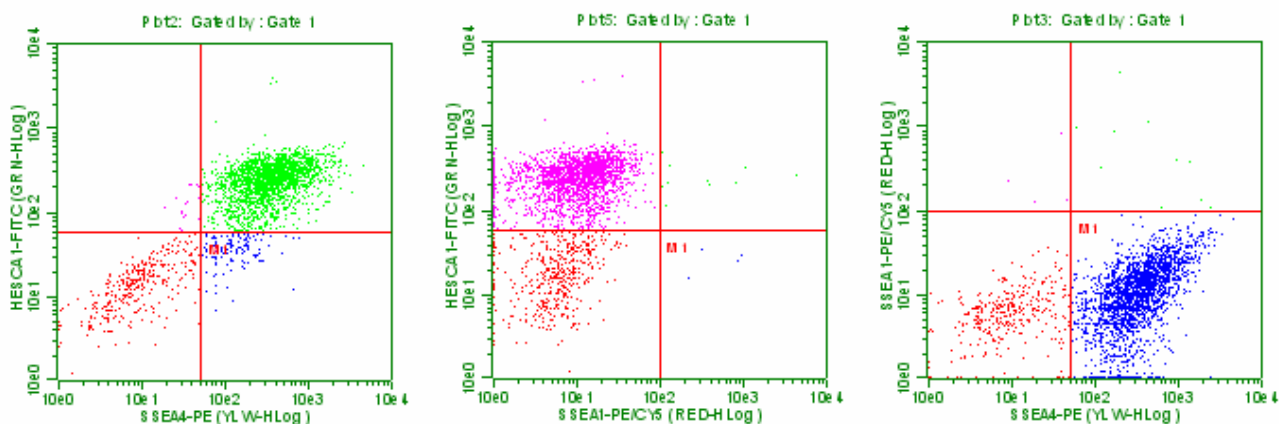

Figure 1. Representative data of H1 human embryonic stem cells stained with HESCA-1-FITC, SSEA4-PE and SSEA1-PE/CY5.
25. Once cells are acquiring, click on compensation window 1 and adjust compensation, so that you get the desired result, i.e. something very similar to the data presented in Figure 1 of this manual.